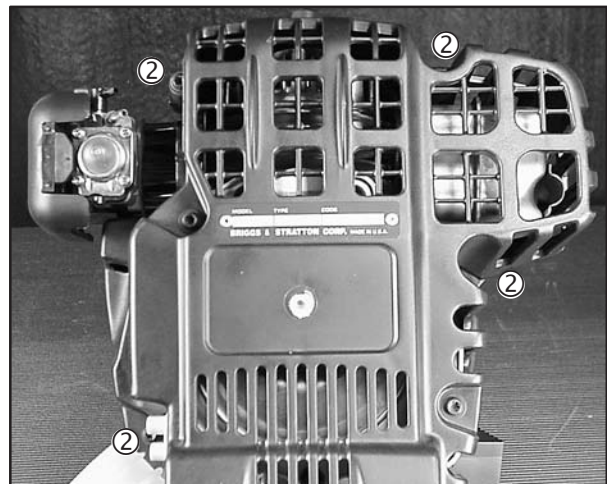

Fig. 2
2. Remove 4 screws (2) from cylinder shield side, Fig. 2.